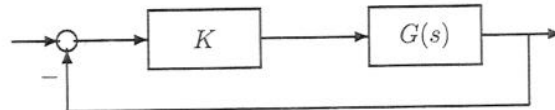

Figure 1.2
- (b) In Figure 1.2, $G(s) = \frac{s-1}{s^2+1}$ and K is a variable gain.
- (c) Consider the feedback loop in Figure 1.2 with $G(s) = \frac{4}{s-1}$.